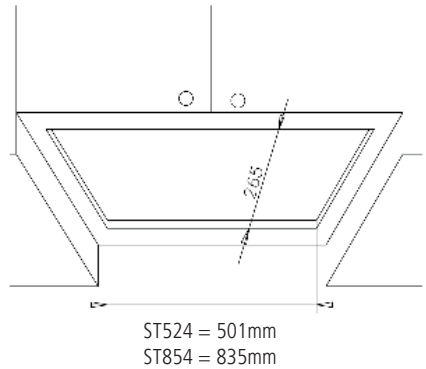

FIG.4
- › Make a cut-out in the bottom of the cabinet which is suitable to hold the appliance in position (Fig.4).